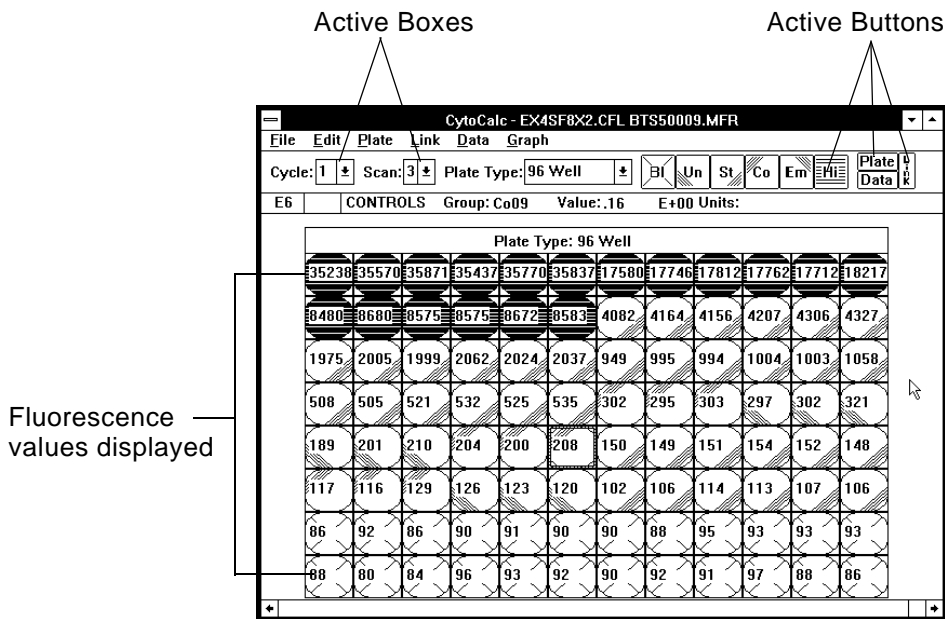

Figure 3-2 Plate Layout Screen with Data Displayed
8. Click **Open**. The data from the file you selected appears on the Plate Layout screen. An example of the Plate Layout screen with data displayed is shown in Figure 3-2.